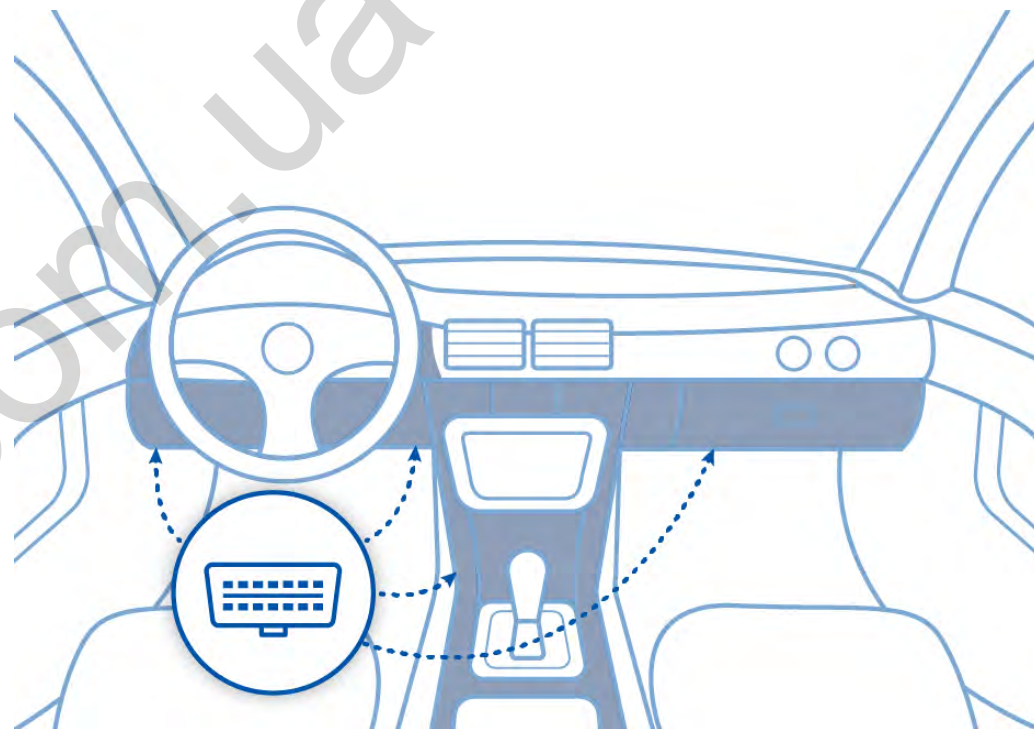

Figure 10. Most common OBDII connector locations.
- Find OBDII connector in your vehicle (Figure 10. Most common OBDII connector locations.).